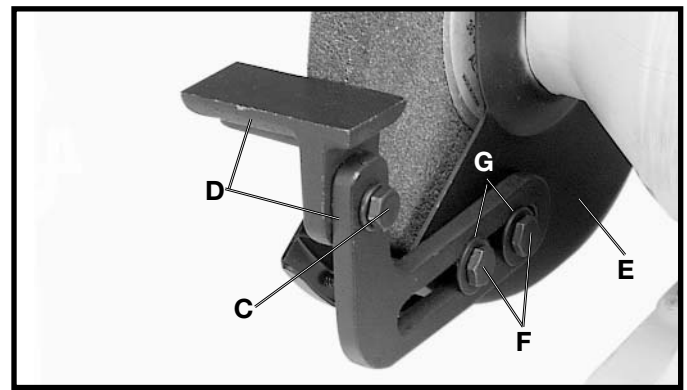

Fig. 4
2. Assemble left tool rest assembly (D) Fig. 4, to the inside of left wheel guard (E), and fasten with two 5/16-18x5/8" screws (F) and 3/4" flat washers (G) as shown.
4. Each tool rest assembly (D) Fig. 4, is adjustable so it can be positioned slightly below the centerline of the wheel and as close to the grinding wheel as possible, giving maximum support to the piece that is being ground. Always maintain a distance of 1/8" or less between the grinding wheel and the inside edge of the tool rest. As the wheels wear down, the tool rest should be adjusted accordingly. When the tool rest is positioned correctly, tighten hardware (C) and (F). Freehand grinding without the use of a tool rest should always be done on the lower quarter of the wheel.